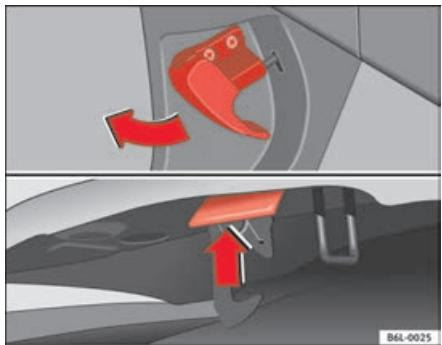

Fig. 126 Arrestor hook for bonnet.
- To release the bonnet, pull the lever under the dashboard ⇒ fig. 126 in the direction indicated (arrow). The bonnet will be released by a spring action ⇒ !.